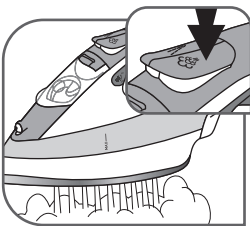
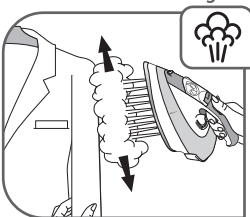

Fig. 12
Fig. 15
- For the TURBO function, set the thermostat control to “MAX” or “•••”. Press the TURBO button from time to time – fig.12.
- Hang the garment on a hanger and hold the fabric slightly taut with one hand. The steam is very hot, so you should always do this with the garment on a hanger – never iron clothes which someone is wearing – fig.15.
- Press the turbo button in pulses – fig.12 and move the iron from the top to the bottom – fig.15.